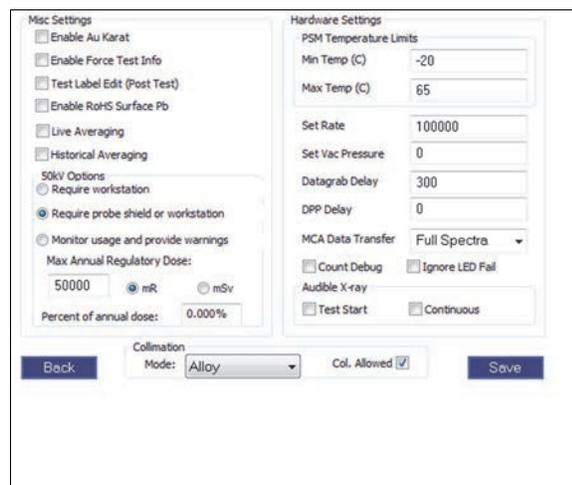

Figure A-1 The Hardware/Misc Settings pane
1. On the **Setup** window, click **Set Up > Factory Settings > Hardware/Misc Settings** to display the **Hardware/Misc Settings** pane (see Figure A-1 on page 115).